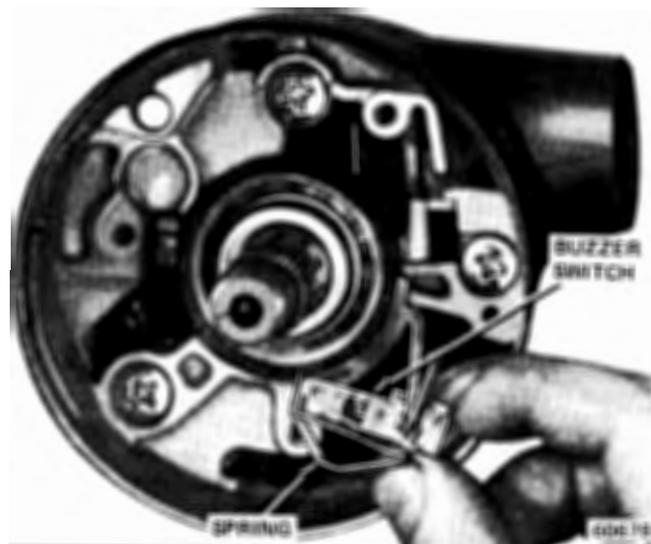

Fig. 11-24 Installing Buzzer Switch and Spring
(11) Assemble buzzer switch and spring. Formed end of spring fits on lower end of switch (fig. 11-24). Insert assembled spring and switch in housing with switch contacts toward lock cylinder bore (fig. 11-9).
(12) Install lock cylinder in housing. Insert key in lock, hold cylinder sleeve in one hand, and rotate key clockwise until it steps. This retracts actuator. Insert cylinder in housing bore with tab on cylinder sleeve aligned with keyway in housing. Push cylinder in until it bottoms. Rotate key counterclockwise until drive section of cylinder mates with sector. Push cylinder in fully until tab engages in housing groove.
(13) Turn lock cylinder clockwise to stop, then counterclockwise to stop at Off-Unlock position. Place ignition switch in Off-Unlock position as follows: